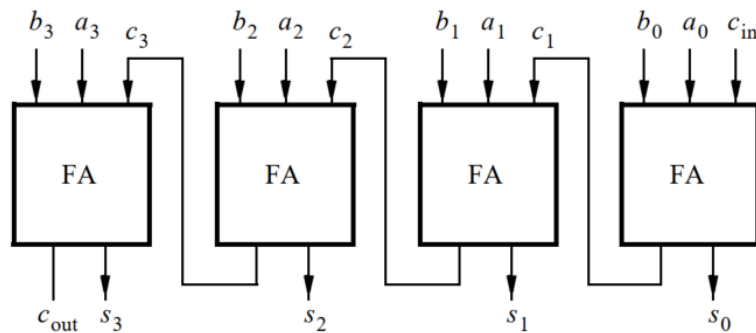

Figure 1: Four-bit ripple-carry adder circuit.
Requirement: Figure 1 shows how four instances of the full adder (FA) module can be used to design a circuit that adds two four-bit numbers. This type of circuit is usually called a *ripple-carry* adder, because of the way that the carry signals are passed from one full adder to the next. Write VHDL code that implements this circuit, as described below.
1. In your excersie 1, pre lab 2 , the full adder (FA) subcircuit was written. Write a top-level VHDL entity that instantiates four instances of this FA to describe the circuit given in Figure 1.